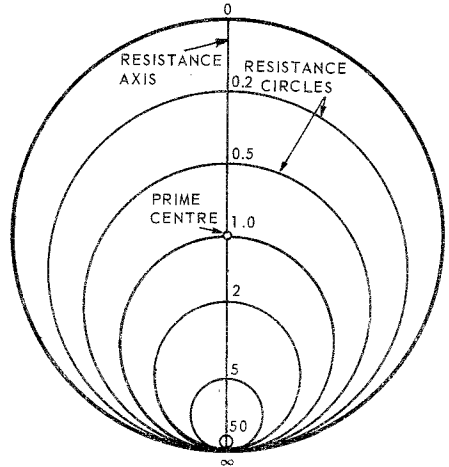

FIG. 2. RESISTANCE CIRCLES.
2.2 The Resistance Circles (Fig. 2) are centred on the resistance axis (the only straight line on the Chart), and have a common tangent with the outer circle at the bottom of the Chart.